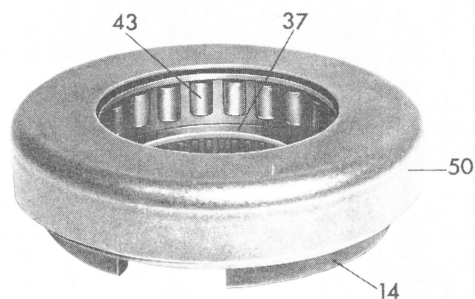

Fig. 14a
The holding plate (50) encloses the roller clutch outer race (14) with roller clutch (43) and thrust washer (37) (Fig. 14a). The roller clutch with holding plate is a replacement for the version used up to then.